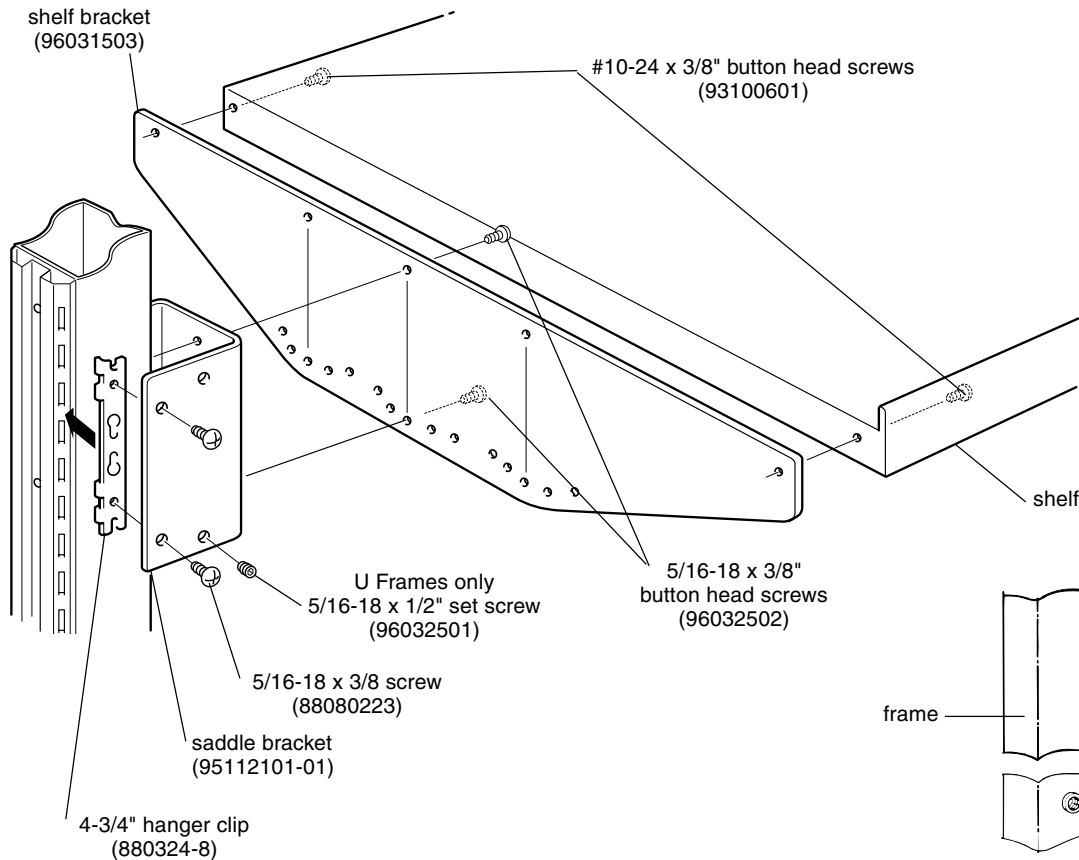

Figure 1
1. On each side of frame opening, install two (2) 4-3/4" hanger clips on the front and back of the vertical tube per side, making sure clips are even and firmly seated in the hanger frame. (Figure 1)
2. Place saddle bracket over vertical tube and clips. Fasten each bracket to clips with four (4) 5/16-18 x 3/8" phillips pan head screws provided. (Figure 1)
3. Determine shelf position, i.e., centered in frame, forward 4" or backward 4" and angle desired, i.e., flat, 8° or 16°. With weldnuts facing outward, fasten each shelf bracket to saddle bracket with two (2) 5/16-18 x 3/8" button head cap screws per side at desired position and angle. (Figure 1)
4. Position shelf between shelf brackets aligning all holes, shelf brackets should extend 3/4" above shelf. From beneath shelf fasten to brackets with two (2) #10-24 x 3/8" button head cap screws per side.
5. On U Frames only, secure each saddle bracket to vertical tube with two (2) 5/16-18 x 1/2" nylon tipped set screws.